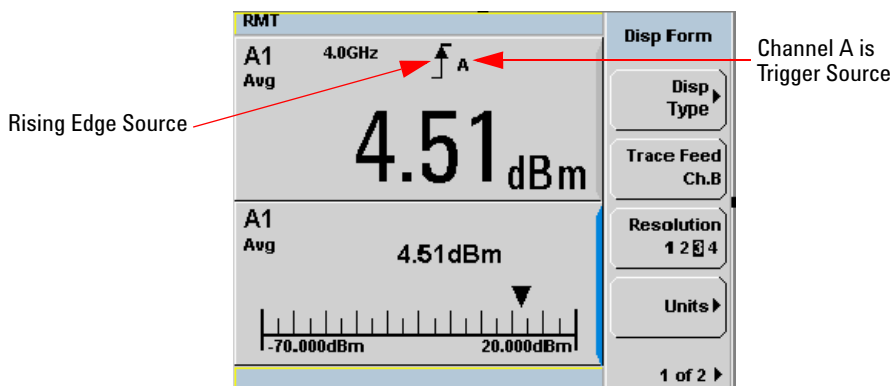
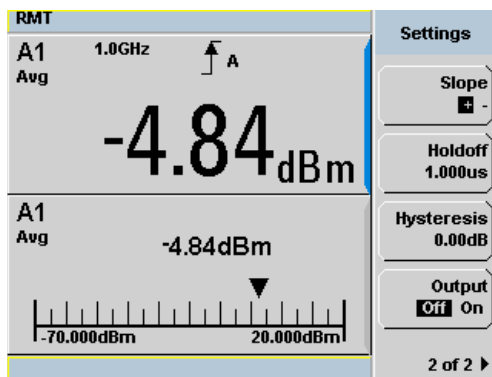

Figure 2-37 Trigger Setting Menu 1 of 2
Figure 2-40 Trigger setting menu 2 of 2
- 3 Press **Settings** to configure the remaining trigger parameters. The trigger Settings menu have 2 pages. Figure 2-37 shows page 1 and Figure 2-40 shows page 2.